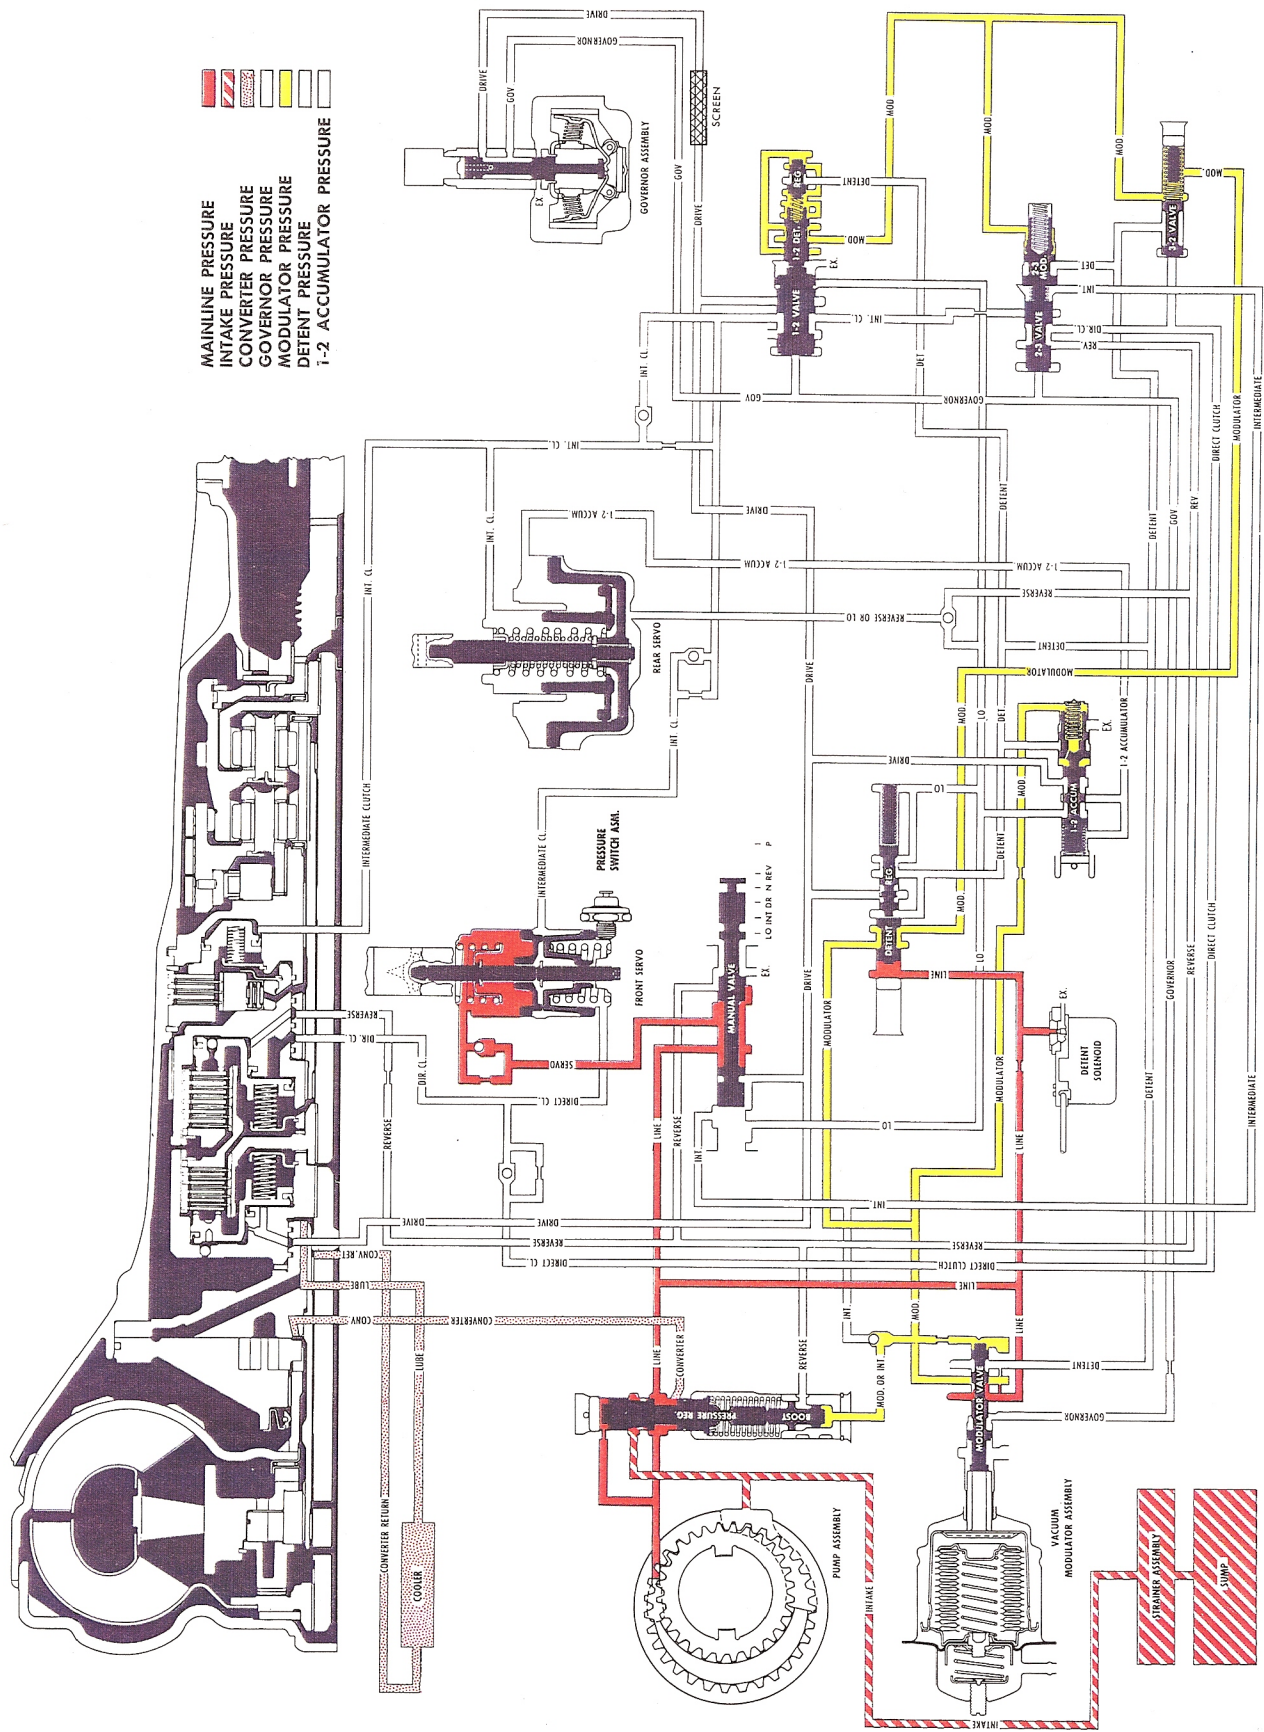

Fig. 59 Neutral Engine Running
- FIG. 59 NEUTRAL
Whenever the engine is running at idle with the selector lever in N, oil from the pump is directed as shown in Fig. 59.